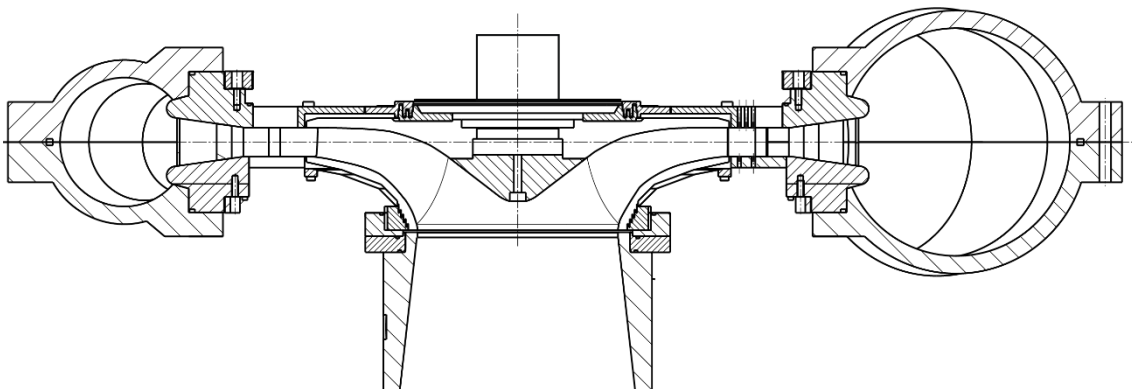

Figure 1: Cutview of the reversible pump-turbine
- 3) In Figure 1, identify the components of the reversible pump-turbine listed in Table 1.